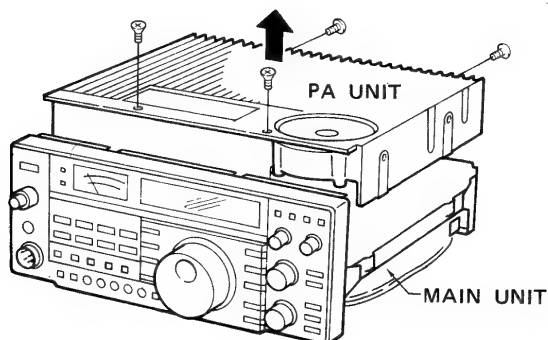

Fig. 2
- 2) Unscrew 4 screws. (Fig. 2)